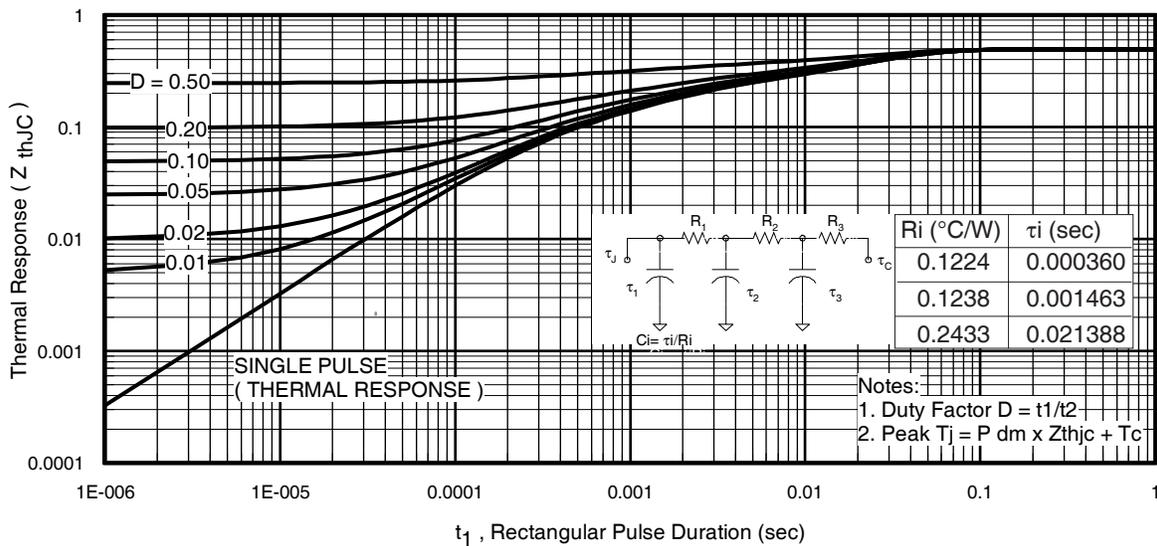
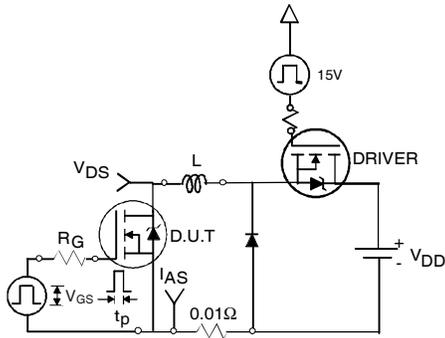

Fig 11. Maximum Effective Transient Thermal Impedance, Junction-to-Case
Fig 12a. Unclamped Inductive Test Circuit
- ① Repetitive rating; pulse width limited by max. junction temperature. (See fig. 11).
- ② Limited by T_{Jmax} , starting $T_J = 25^\circ\text{C}$, $L = 0.13\text{mH}$, $R_G = 25\Omega$, $I_{AS} = 90A$, $V_{GS} = 10V$. Part not recommended for use above this value.
- ③ $I_{SD} \leq 90A$, $di/dt \leq 340A/\mu s$, $V_{DD} \leq V_{(BR)DSS}$, $T_J \leq 175^\circ\text{C}$.
- ④ Pulse width $\leq 1.0\text{ms}$; duty cycle $\leq 2\%$.
- ⑤ $C_{oss\ eff.}$ is a fixed capacitance that gives the same charging time as C_{oss} while V_{DS} is rising from 0 to 80% V_{DSS} .
- ⑥ Limited by T_{Jmax} , see Fig.12a, 12b, 15, 16 for typical repetitive avalanche performance.
- ⑦ This value determined from sample failure population. 100% tested to this value in production.
- ⑧ R_{θ} is measured at T_J of approximately 90°C .
3. Equation below based on circuit and waveforms shown in Figures 12a, 12b.
$Z_{thJC}(D, t_{av})$ = Transient thermal resistance, see figure 11)